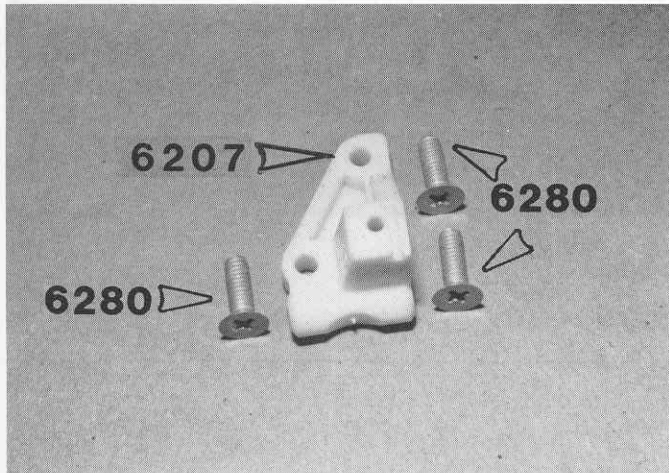

Fig. 5
□ **Fig. 5** From bag #6-1, take out the left hand front suspension mount #6207. This mount will have the letter L on the bottom. The left or right hand side of the car is determined by the driver as he sits in the car. His left hand will be the left side of the car and his right hand the right side.